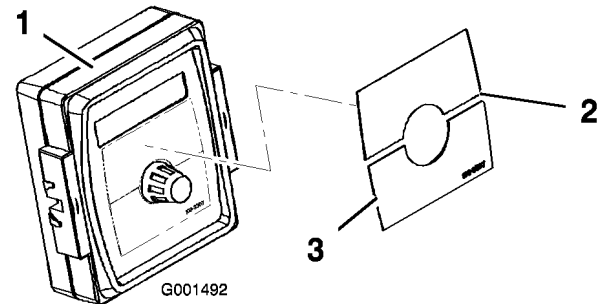

Figure 22
4. Install the Spray Pro Decal to the monitor (Figure 22).